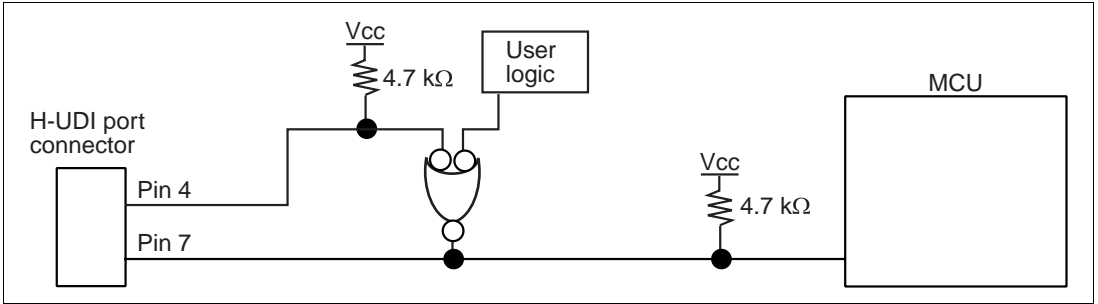

Figure 1.6 Connection of the RES# Pin
- RES# of pin 4 of the H-UDI port connector is a signal line in which the emulator outputs signals to the MCU. RES# of pin 4 and the user system reset circuit must be connected to the MCU, as shown in figure 1.6. RES# of pin 7 of the H-UDI port connector is a signal line in which the emulator monitors the RES# signal of the MCU. The RES# must be pulled up before it is connected to pin 7 of the H-UDI port connector.